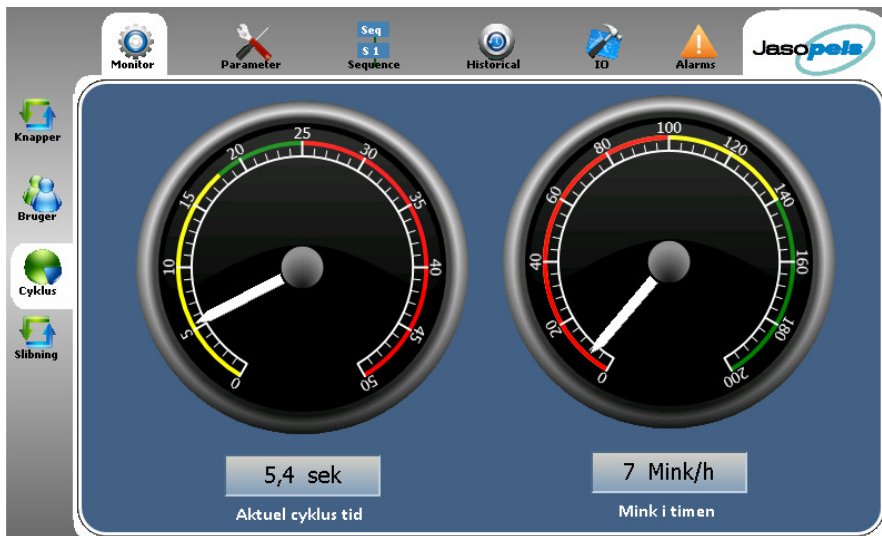

Fig. 4
- In fig. 4 you can see how to read the current cycle time per mink. It is also possible to see the number of mink per hour.